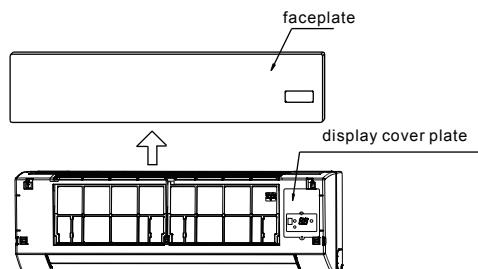

Fig.7-1
- Take out the faceplate,then dismantle the display cover plate.(Refer to Fig 7-1)